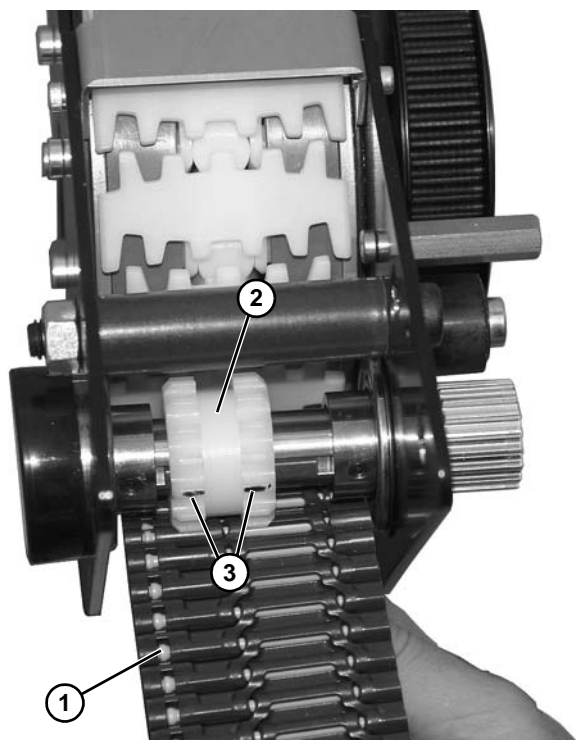

Figure 156
3. Raise belt (Figure 156, item 1) into position, and move gear (Figure 156, item 2) so that cogs line up with belt, as shown.
4. Tighten sprocket with set screws (Figure 156, item 3) in proper alignment with belt (Figure 156, item 1).